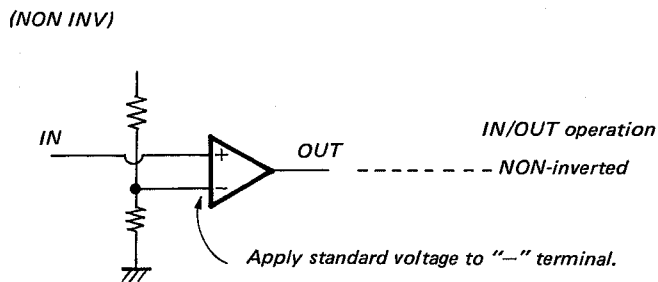

Fig. 3
- (2) Comparator
- Fig. 3, 4 show two kinds of circuit structure: